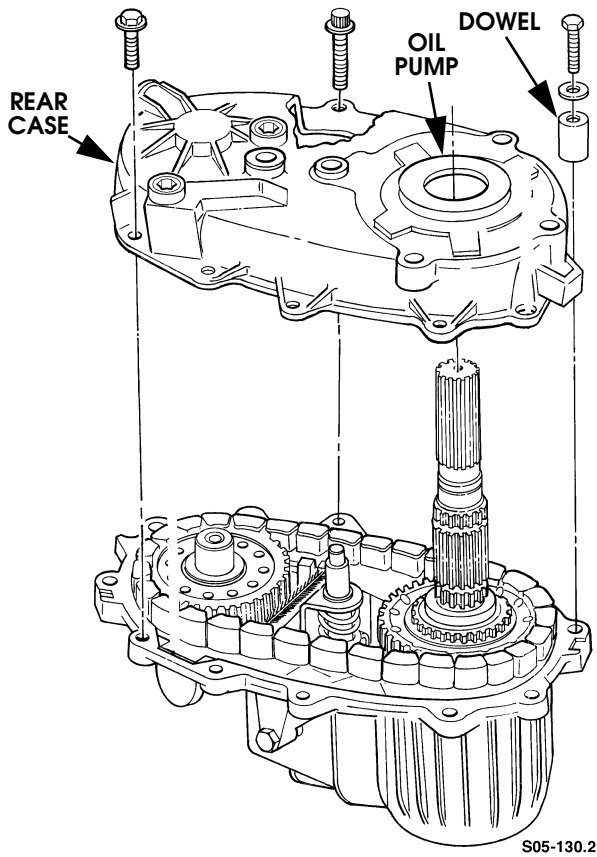

Figure 5-162: Rear Case Installation
33. Align and install rear case on front case (Figure 5-162). Be sure alignment dowel is seated and that oil pump is properly engaged in mainshaft splines. Also be sure front output shaft is seated in rear bearing and shift rail is seated in rear case bore.